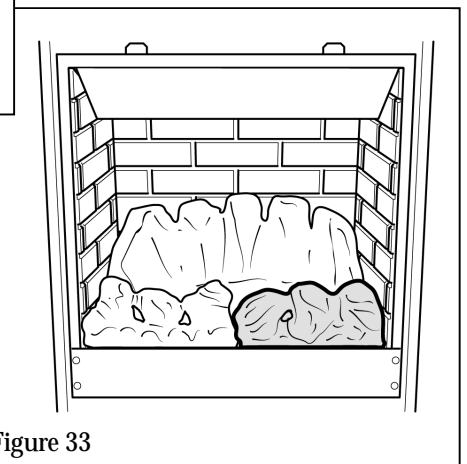

Figure 33
3. Place the right front coal behind the metal lip at the front of the firebox. Its left side should rest over the projection on the left front coal. See figure 33.